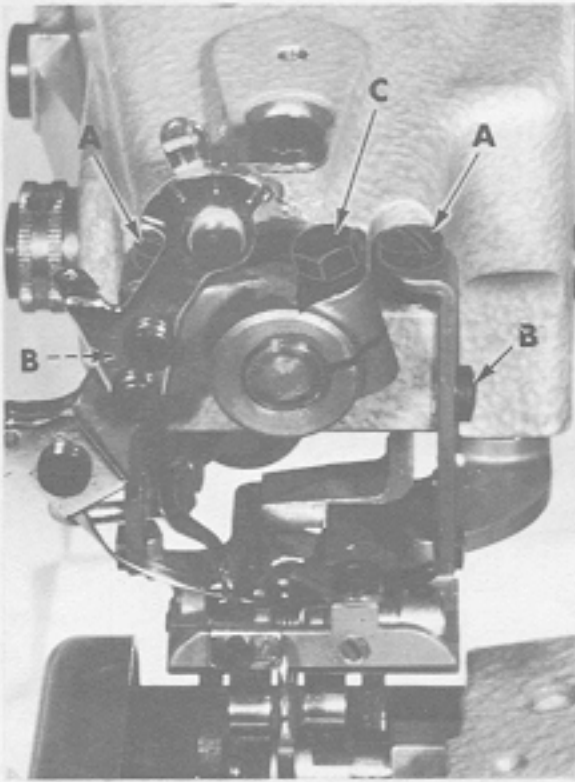
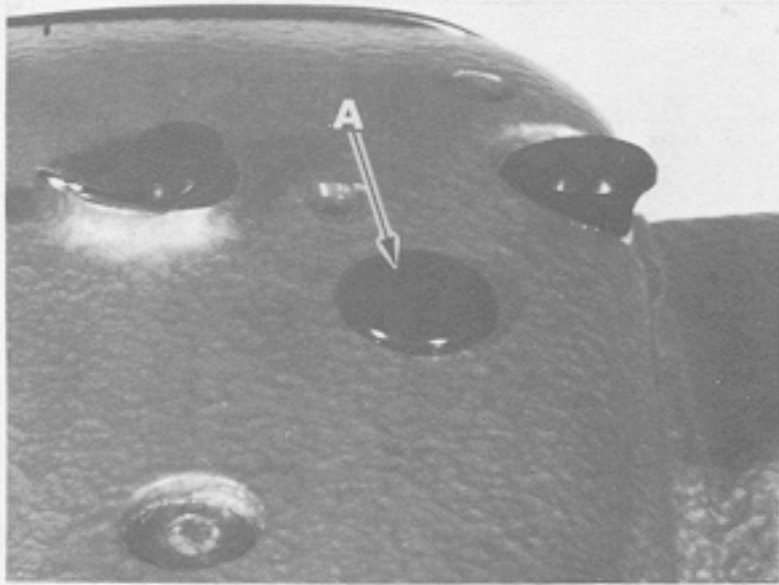
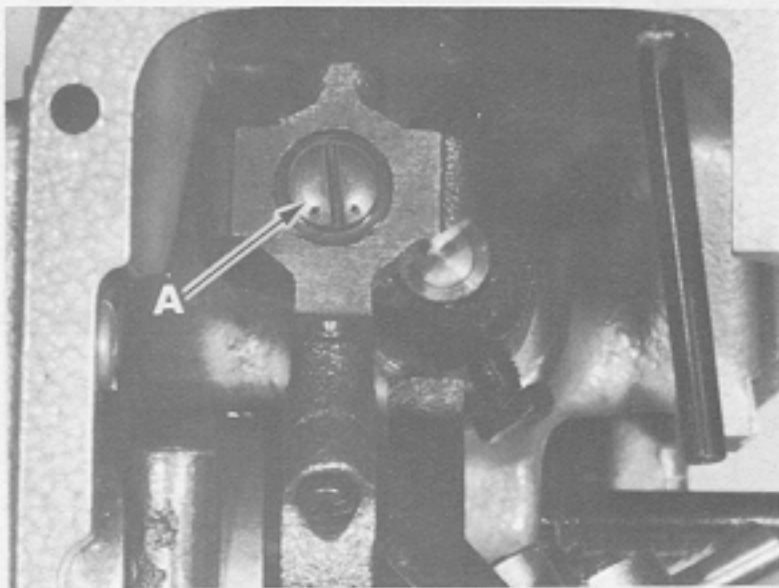

Fig. 3
Fig. 4
Fig. 5
If adjustment is required, loosen screws (A, Fig. 3) on top of presser foot brackets, so that the heads do not contact the brackets. Loosen screws (B) on the side of each bracket, move presser foot up, retighten screws (B) just enough to hold the presser foot up. Adjust the top screws (A) equally, a little at a time, to obtain the above settings. After screws (B) have been tightened, no further adjustment of the top screws (A) should be attempted.
Turn the handwheel in operating direction until the needle point is at the left end of stroke. It should be flush with the left side of looper opening (D, Fig. 2). The needle point, at right end of stroke, should be to the top of radius run-out edge (E). If this is not the case, the travel of the needle will have to be adjusted in the following manner. Turn the handwheel in operating direction until the needle eye is flush with the right side of the cloth opening (B, Fig. 2) in the presser foot. Remove rubber plug (A, Fig. 4). Loosen the clamp screw in needle crank (accessible through the hole). Turn the handwheel in operating direction until the needle carrier is at its extreme right end of travel. Remove head cover and turn the needle eccentric ball stud (A, Fig. 5) so that its slot is vertical and punch marks in the ball stud are down, as viewed in (Fig. 5). The needle eccentric ball stud is located in the head, at the rear near the top. Retighten the clamp screw and recheck the position of the needle point in relation to the left side of looper opening. Loosen needle carrier clamp screw (C, Fig. 3) and rotate carrier as required for above setting. The needle carrier should be set front to back so the side of the needle is flush to .003 inch (.076 mm) from vertical wall at the right side of presser foot. It may be necessary to slightly retard or advance the above adjustments to obtain desired results.